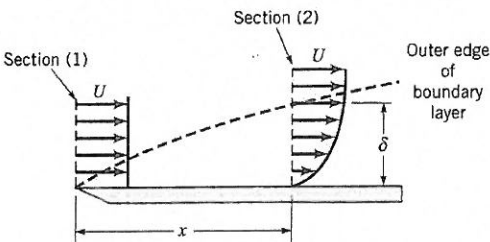

Figure P5.25
5.25 Flow of a viscous fluid over a flat plate surface results in the development of a region of reduced velocity adjacent to the wetted surface as depicted in Fig. P5.25. This region of reduced flow is called a boundary layer. At the leading edge of the plate, the velocity profile may be considered uniformly distributed with a value U . All along the outer edge of the boundary layer, the fluid velocity component parallel to the plate surface is also U . If the x -direction velocity profile at section (2) is